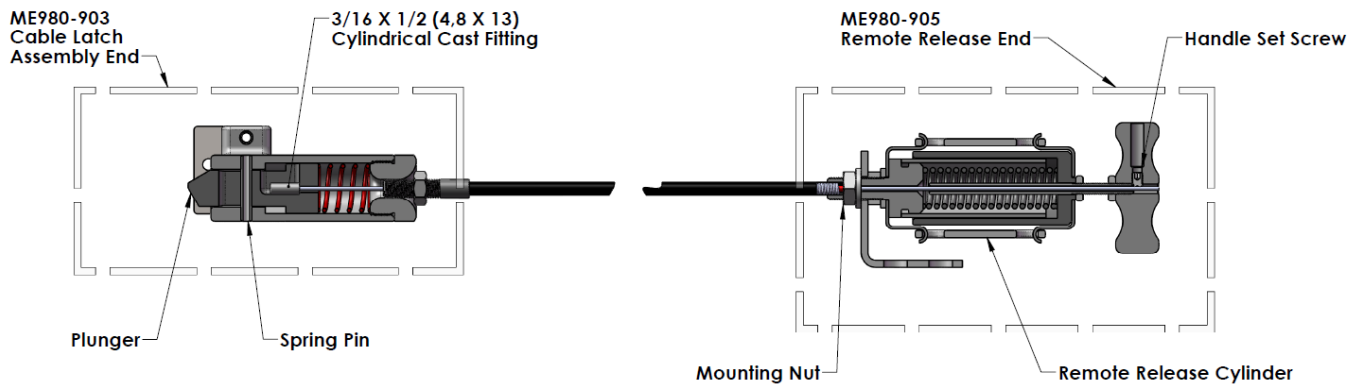

Figure 2: Cable Release Installation Diagram
2. If it is necessary to cut the cable to a shorter length, pull about one foot of inner cable from the ME980 latch cable end (end with the 3/16 by 1/2" long cylindrical cast fitting, (see Figure 2) from the housing.